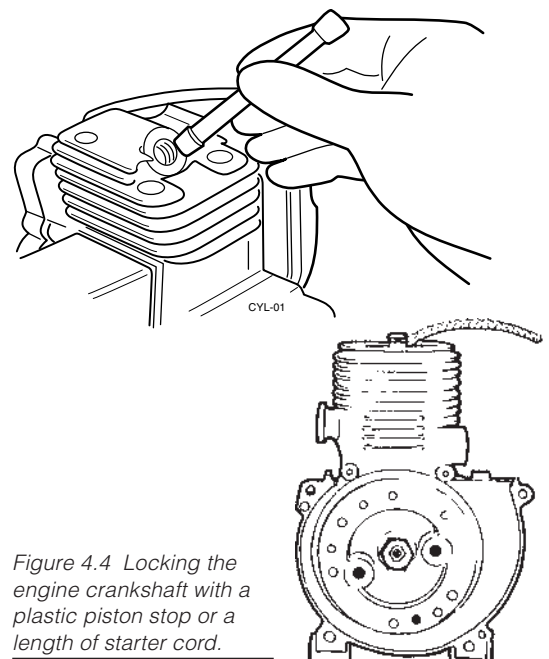

Figure 4.4 Locking the engine crankshaft with a plastic piston stop or a length of starter cord.
**STEP 1.** Lock the engine crankshaft by inserting a plastic piston stop or length of starter cord through the spark plug hole (Figure 4.4).